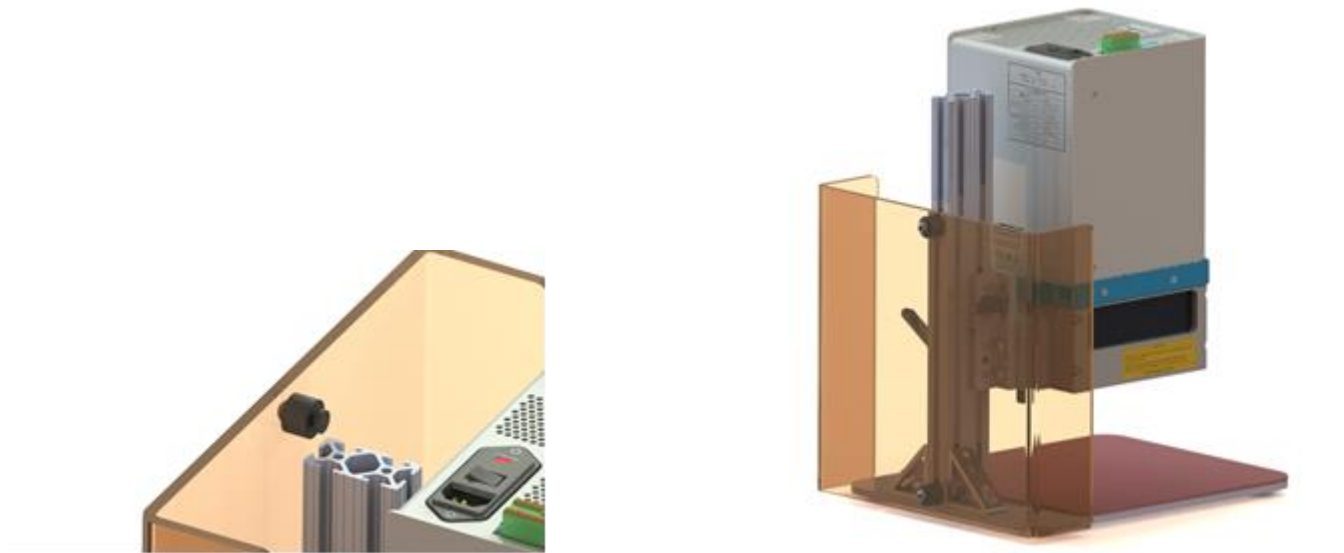

Figure 4. Slide Back Panel into Position
5. Slide to the desired height and tighten the levers (Figure 4).